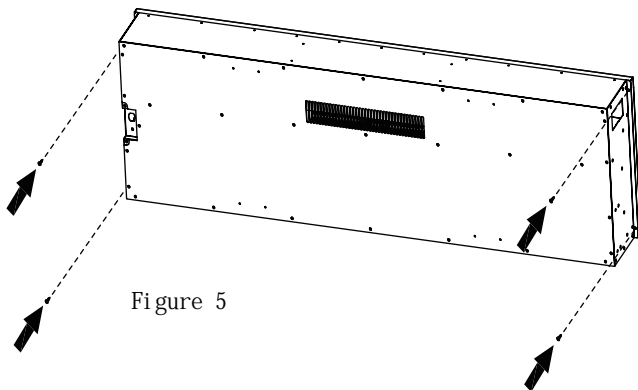

Figure 5
(5) Do the reserve to reset everything. (Figure 5)